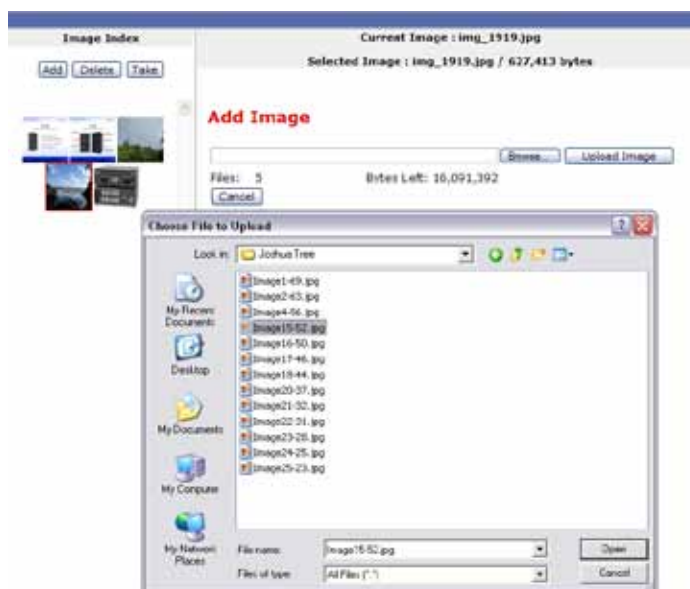

Figure 30. Uploading an Image
1. Click the **Add** button. The **Add Image** field appears (see figure 30).